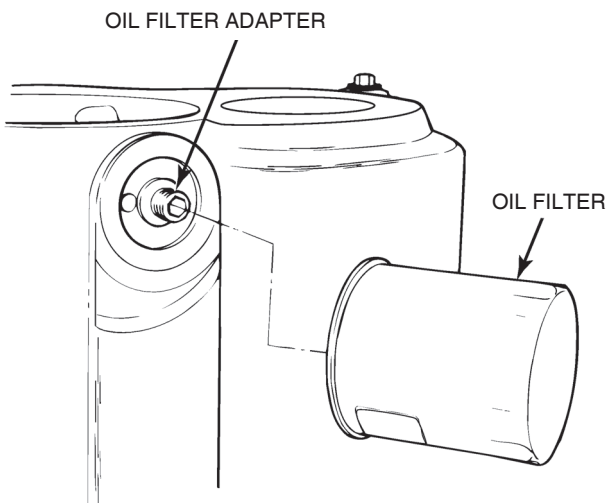

Figure 5.108
18. If removed, install the oil filter adapter of the differential housing. Use Meritor adhesive number 2297-T-4180, or equivalent. See the Section 4. Tighten the adapter to 40-60 lb-ft (55-80 Nm). Figure 5.108.
19. Apply axle lubricant to the gasket of the new oil filter. Install the oil filter onto the adapter. When the gasket on the filter contacts the differential, tighten the oil filter an additional 3/4 of a turn. If necessary, use an oil filter wrench to tighten the filter. Figure 5.108.